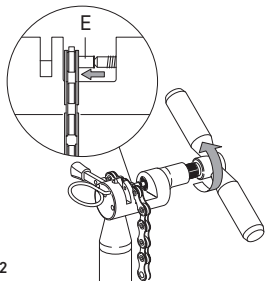

Fig.12
- While exerting a uniform force, screw in the tool (Fig. 12) so that the bushing 5-CN-SR700 (E) has completely entered the thickness of the chain.